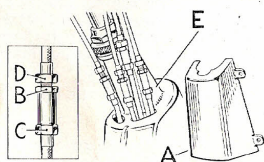

FIG. 7.
Control Cables:—Adjusters for all cables, *i.e.*, brakes, decompressor, “choke” and throttle, are grouped within a detachable box (A) mounted on the steering column (E) Fig. 7. To reduce slackness in a cable (*e.g.*, to adjust the brake operation) slacken the locknut (B), hold the body (C) of the adjuster and unscrew the sleeve nut (D) until the adjustment is correct. Tighten the locknut securely.